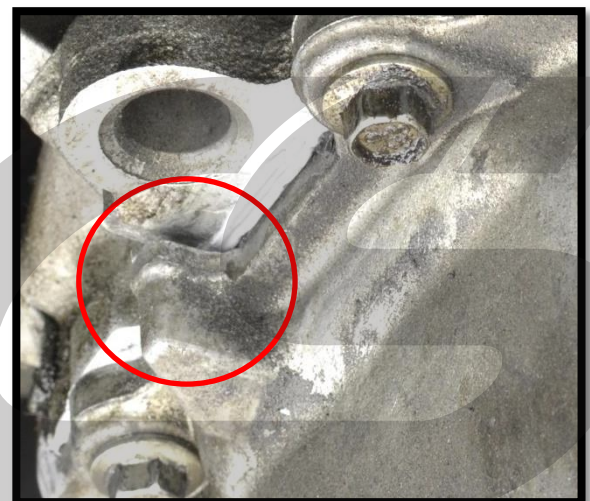

Figure 3d
- g) Use a screwdriver or small pry bar to gently pry on the small tabs around the oil pan to loosen the pan from the sealant. Example of tab **Circled in red** in Figure 3d.